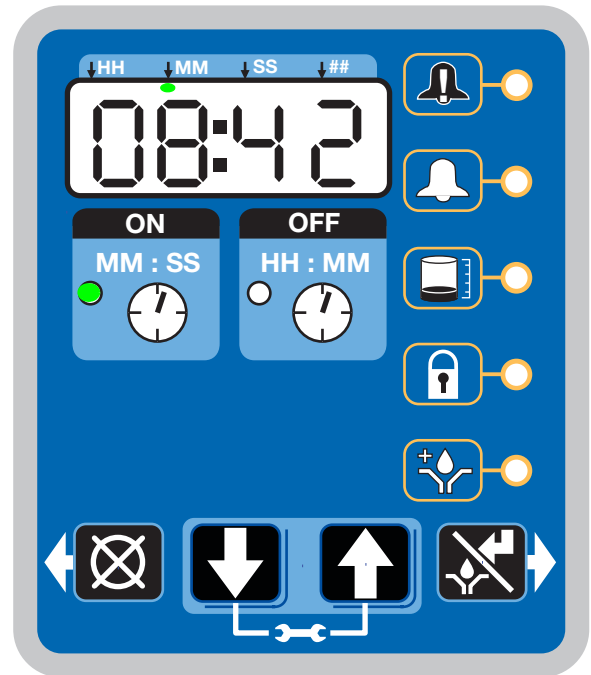

FIG. 30
- When the OFF Time count reaches zero, the G3 Automatic Lubrication Pump turns the pump on and it runs for the programmed ON Time cycle (FIG. 30).
- The example shown in FIG. 30 shows an ON Time of 8 minutes and 42 seconds before the lubrication cycle ends.